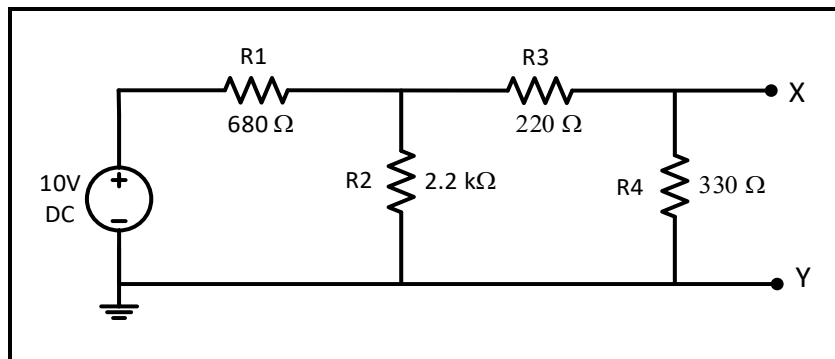
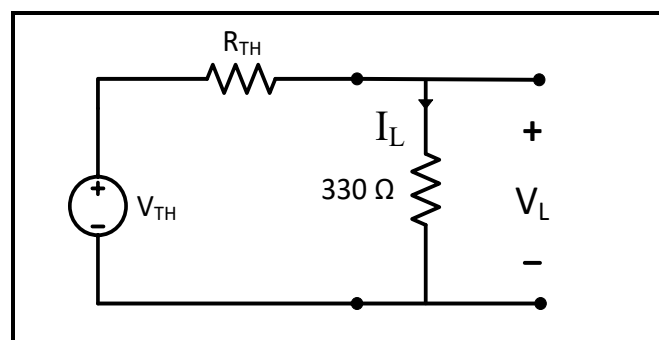

Figure 4.5
Figure 4.7
1. Find and draw the Thevenin equivalent with respect to the terminals X, Y for the circuit in Figure 4.5 (**Show calculation of $V_{Thevenin}$ and $R_{Thevenin}$**).
2. Simulate the circuit of Figure 4.5 using PSPICE to determine the value of voltage around and current through the $330\ \Omega$ resistor.
3. Simulate Thevenin equivalent circuit that you found in step 1 shown in Figure 4.7 using PSPICE to determine the value of voltage around and current through the $330\ \Omega$ resistor.
1. Connect the circuit of Figure 4.5 and set the power supply voltage to 10V.
9. Based on your calculation of $V_{Thevenin}$ and $R_{Thevenin}$ in your pre lab, connect Thevenin's equivalent circuit for the circuit of Figure 4.5 as shown in figure 4.7 (use decade box for $R_{Thevenin}$), measure the voltage across and the current through the 330 Ω resistor, record results in Table 4.7.
Question 3: Compare the measured values of load voltage and current in Thevenin's circuit and in the original circuit in figure 4.5. Compare the value of R_{Th} in the three methods of measurement.